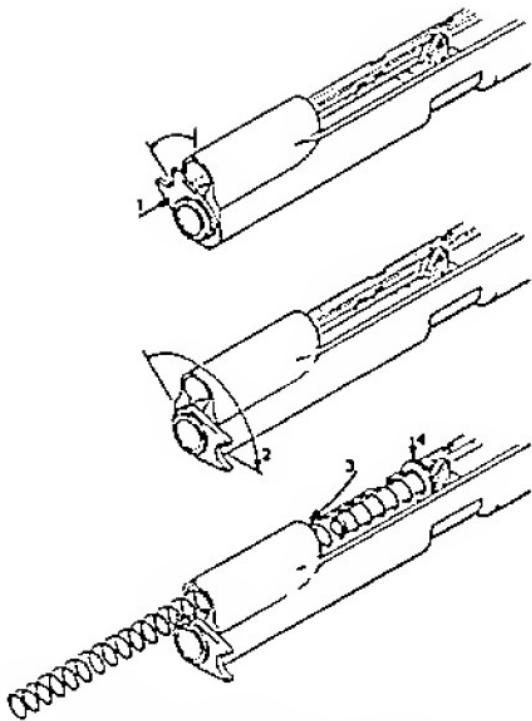

FIGURE 9—INSTALLING BARREL
2. (See Figure 9). Place barrel bushing over muzzle of barrel and into slide until it is flush with the face of the slide, (STEP 1). Turn bushing clockwise as far as it will go. (STEP 2).